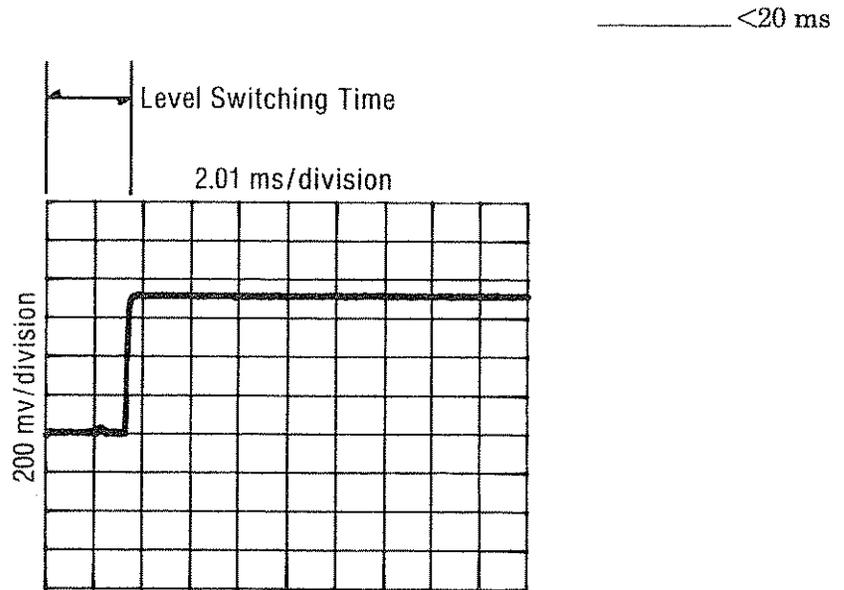

Figure 4-8. Output Level Switching Time Measurement Waveform
- 5. Run the program and measure the switching time by observing the signal on the oscilloscope display. Refer to Figure 4-8.